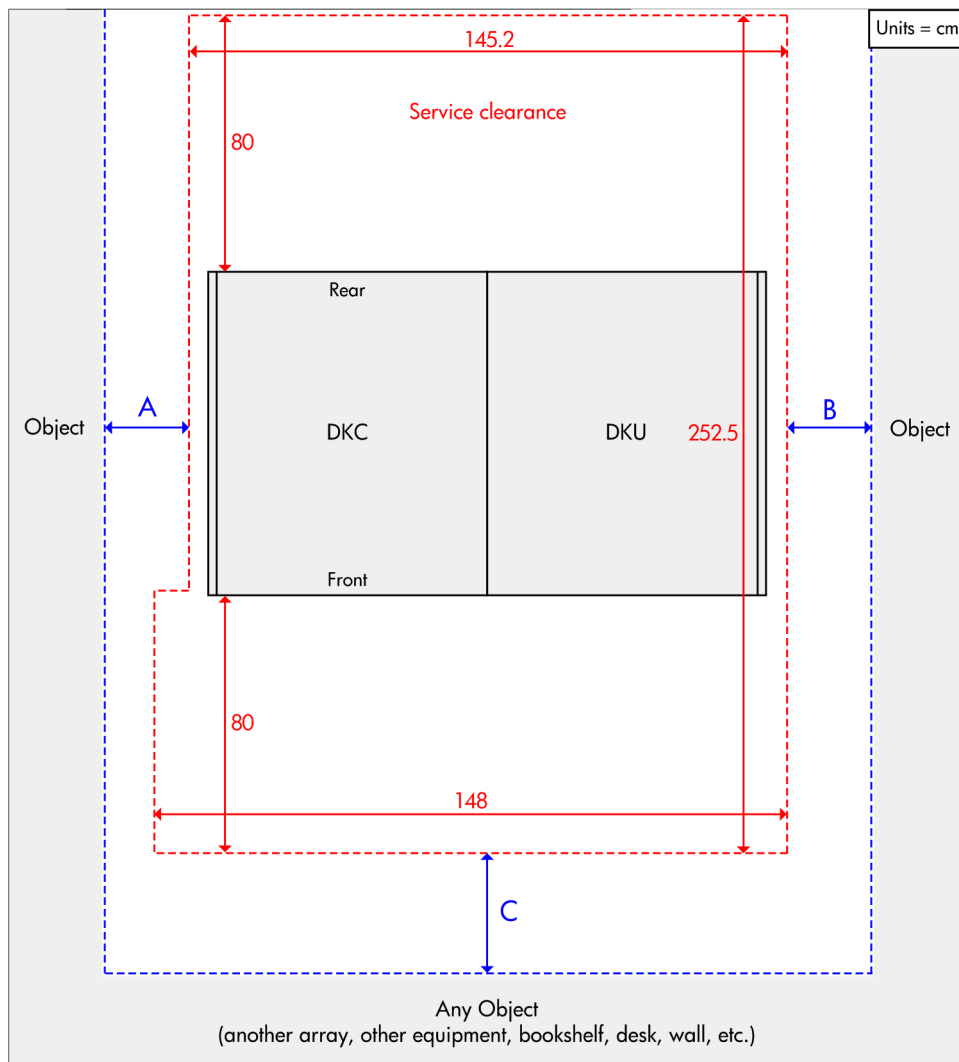

Figure 5. Floor clearance — DKC and one DKU
- DKC with one DKU—Figure 5 (page 38)